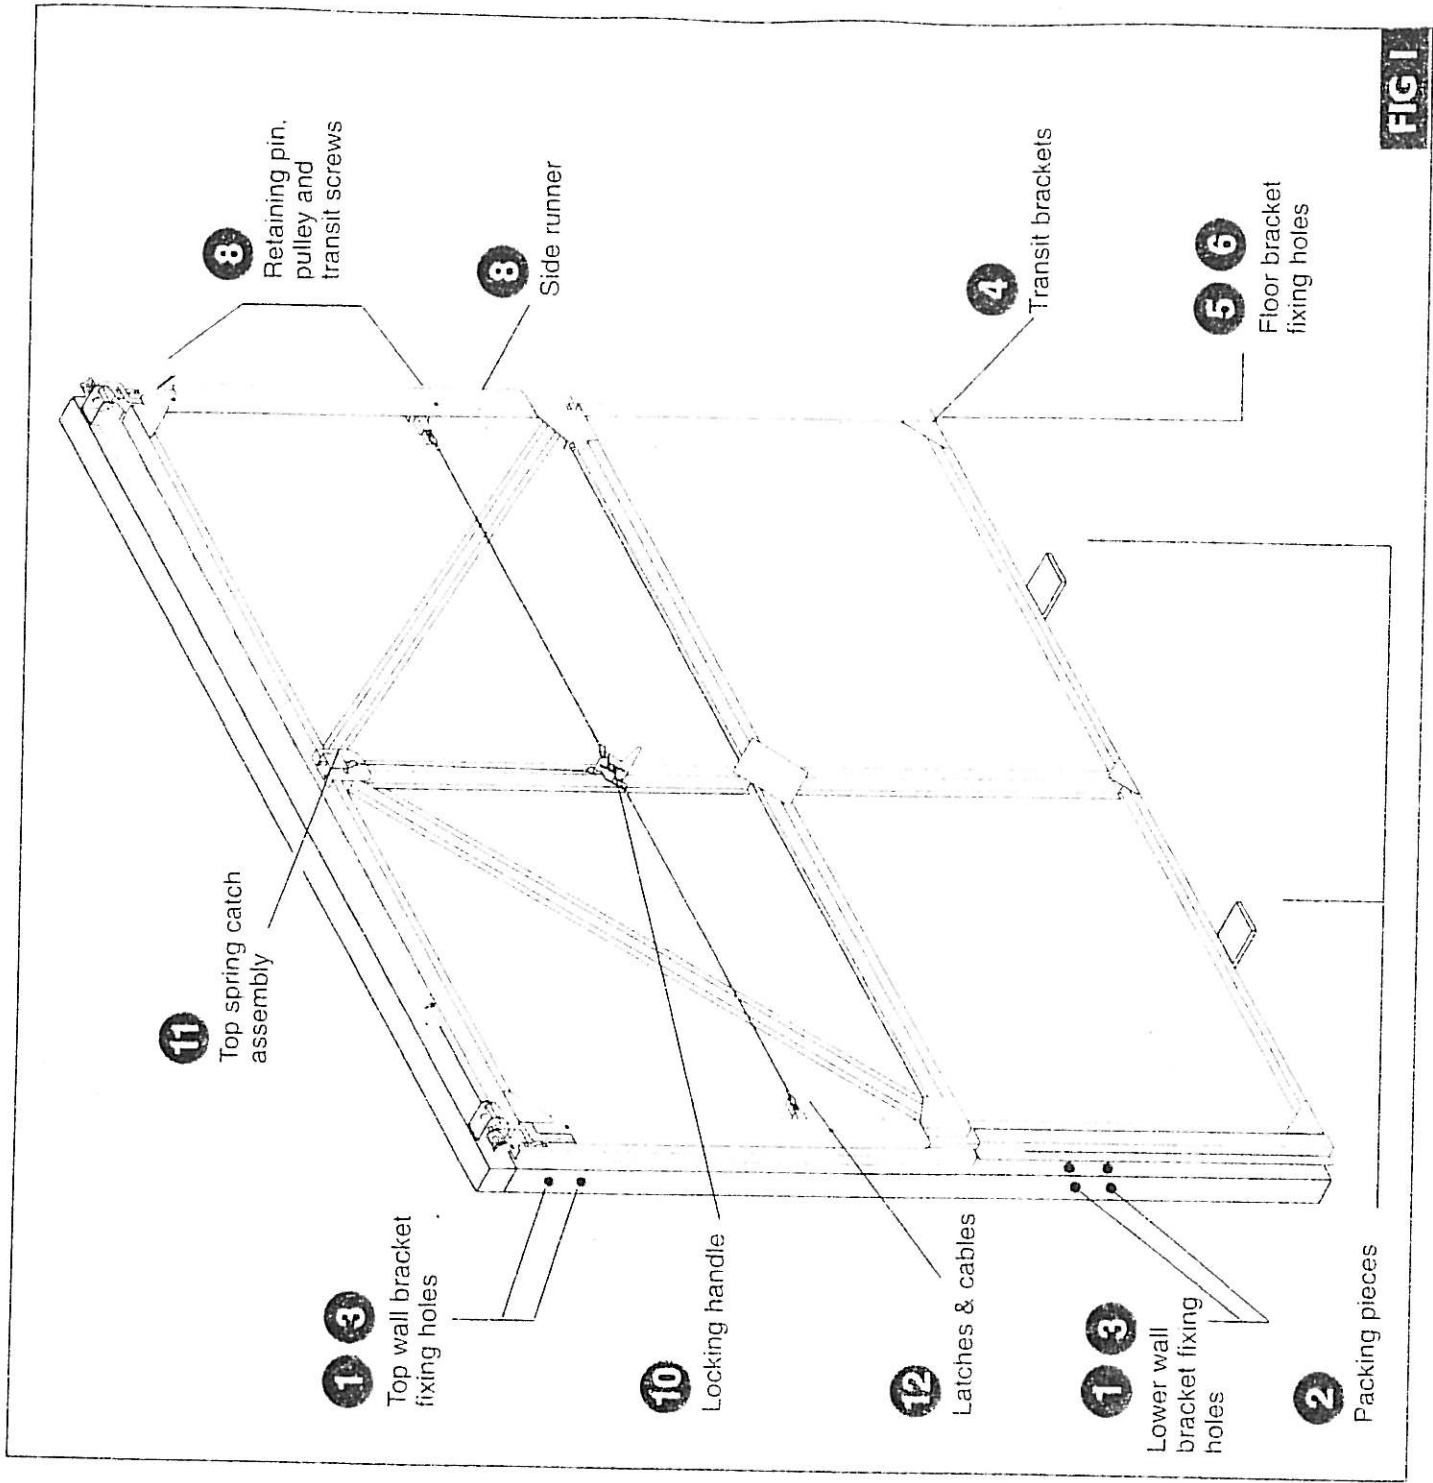

FIG 1
3. Insert 4 off No. 10 x 1/2" self tapping transit screws through the top side seal to secure the side runners in place. (See Fig. 1)
4. Remove lower rubber weatherstrips. (See Fig. 1)
2. Insert No. 10 x 1/2" self tapping transit screws through the top side seal to secure the side runners in place. (See Fig. 1.)